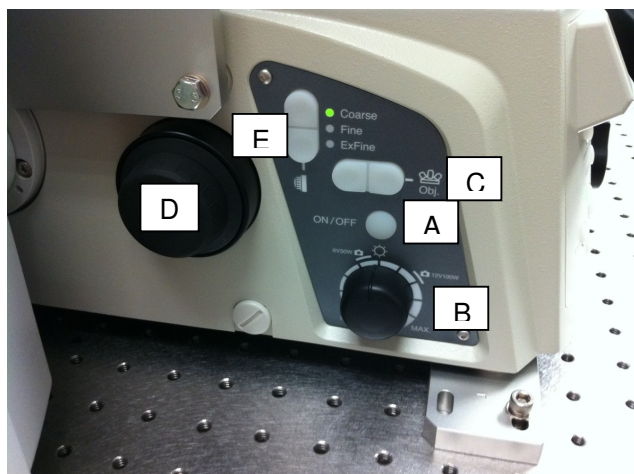

Figure 9. Controls on the left side of the microscope.
- 5.5.5 Controls on the left side of the microscope (Figure 9)